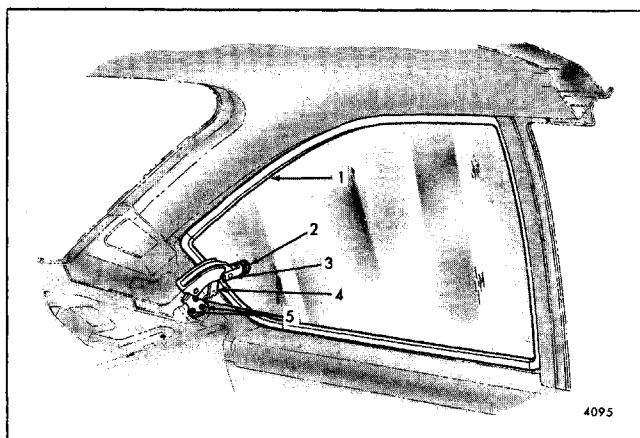

Fig. 6-34-Optional Swing-Out Quarter Window - "H-11 and 77" Styles Shown ("X-17,27" Styles Similar)
2. Remove three screws which secure latch assembly to the body (Fig. 6-34). On "X" styles, spacers may have been installed and should be removed.
2. Using a flat end punch, remove the latch to support attaching roll pin (Fig. 6-34).